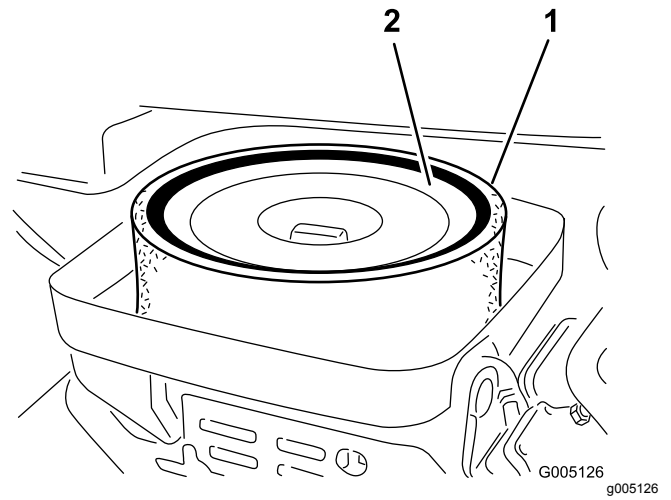

Figure 46
4. If the foam element is dirty, remove it from the paper element (Figure 46). Clean it thoroughly, as follows: